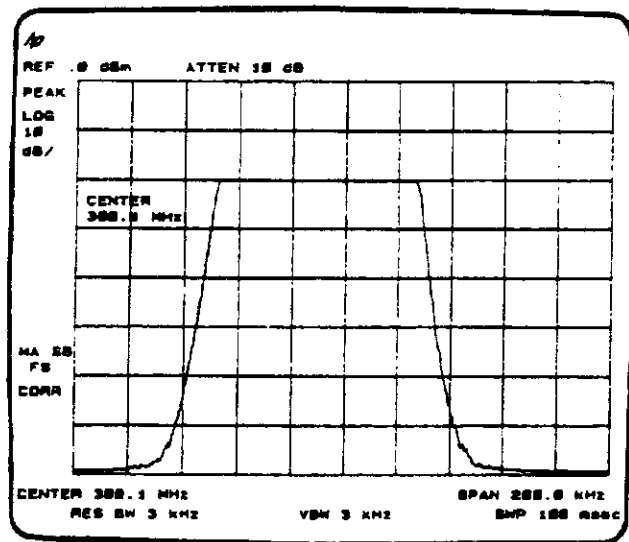

Figure 2-5
2. To measure the excursion of the signal, press **[TRACE A]** and **[MAX HOLD A]**. As the signal drifts, maximum hold maintains the maximum responses of the input signal, as shown in Figure 2-5. (To simulate this with the calibration signal, press **[FREQUENCY]** and turn the knob.)